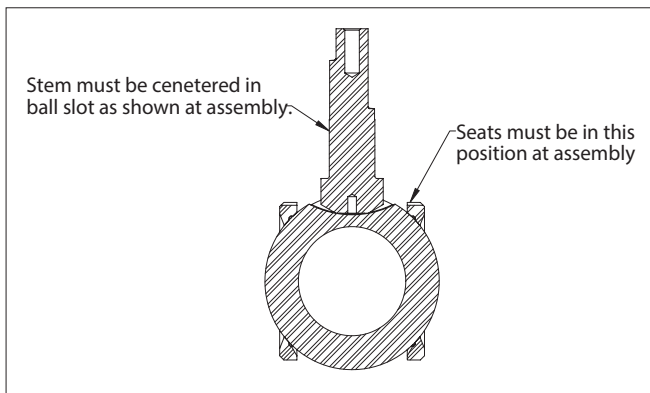
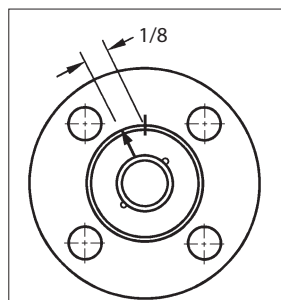

Figure 3. Proper Seat and Ball Orientation
Figure 7.
3. Carefully clean and polish the ball (3) sealing surface. It should be free of all scratches and grooves.
5. Secure body (1) with body joint opening facing up.
6. Slide one valve seat (7) sideways into the body (1) to below the stem bore, and tilt it into place so that the proper surface (see **Figure 3**) will be adjacent to the ball (3), being careful not to cut or scratch the seat.
12. Place the valve in a vertical position, body joint up, on a clean soft surface such as a folded rag or piece of cardboard. Insert bottom grounding spring (36) into the hole at the bottom of the stem (5). Insert the ball (3) rotating it onto the stem (5) in the closed position. If necessary, turn the stem blade to align with the ball slot. Make certain that the stem blade is in the middle of the ball slot; i.e. equal distance from the ends of the slot. Rotate the ball if necessary (see **Figure 3**).
13. Place the second seat (7) into the insert (2) with the proper surface adjacent to the ball (see **Figure 3**).
14. Gently place the body gasket (65) into the machined recess of the body (1).
15. Apply a lubricant compatible with the tank car commodity to the insert threads and screw the insert into the body. The tightening of the insert should be done using the insert field wrench. The insert must be tightened the same number of turns as in Step 11, insuring that the marks are no more than 1/8" (3.18 mm) apart, as shown in **Figure 7**.
16. Place the indicator stop (32) with "BTM" making facing down, over the stem so that the longer part is over the body.
17. Place the spring (33) over the stem (5) with the larger diameter contacting the indicator stop (32).
18. Compress the spring (33) and hold down by putting the retaining ring (34) in the groove in the stem (5).